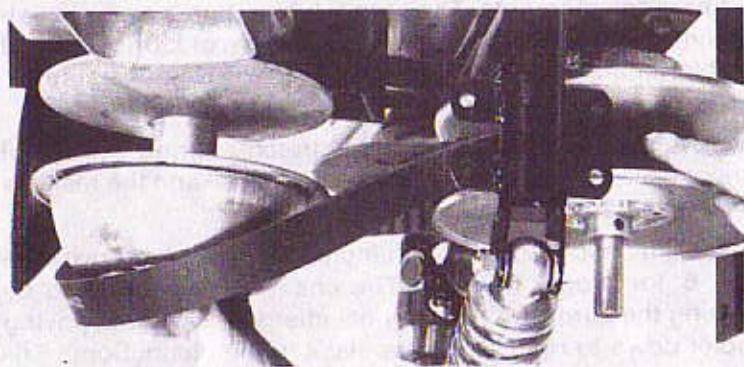

FIGURE 1
2. Open the driven pulley, (pulling and twisting the sliding half). See figure 1.